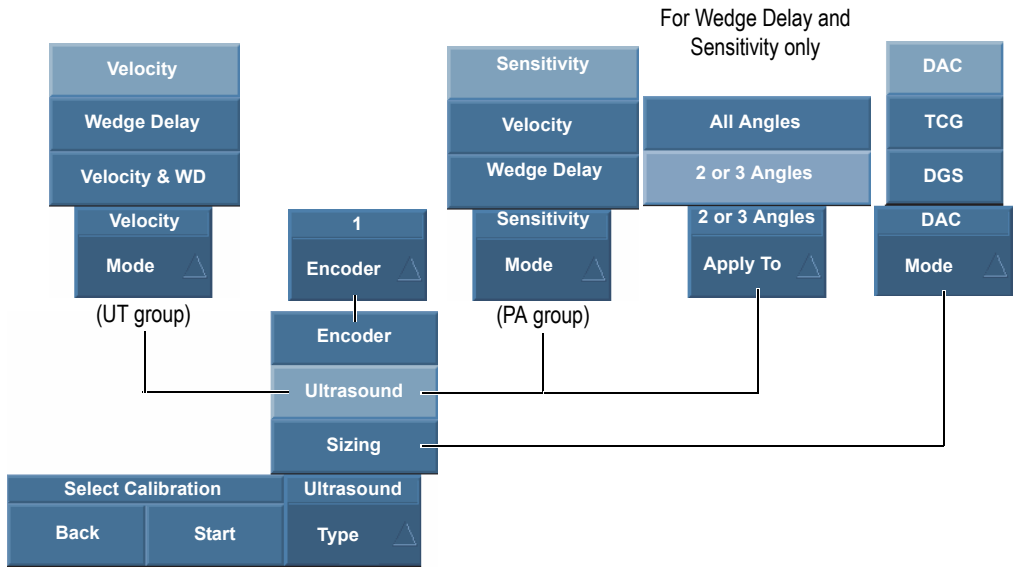
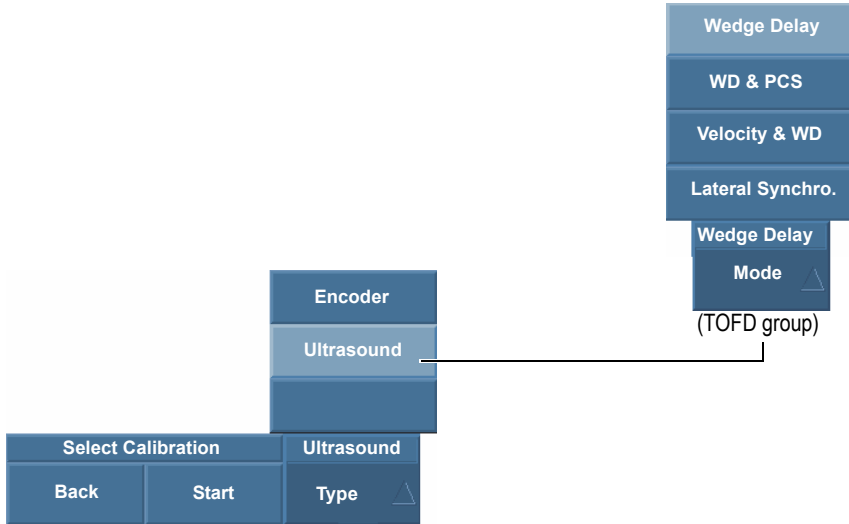

Figure 5-1 Choice of parameters to calibrate in Select Calibration
Figure 5-2 Choice of parameters to calibrate – TOFD group
2. In the **Type** list, choose the type of calibration that you want to perform (see Figure 5-1 on page 110 and Figure 5-2 on page 110).
- Depending on the choice you made in the previous step (see Figure 5-1 on page 110), select the item to calibrate in the **Encoder** or **Mode** list.